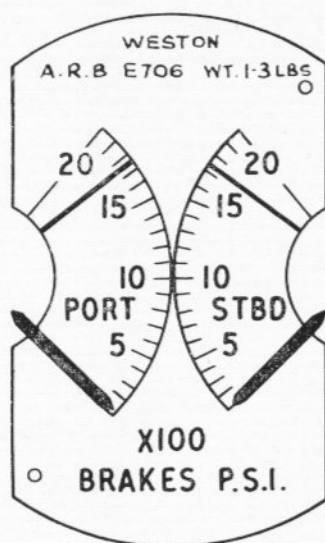

Fig. 1. Indicator, Type S127.5.159
1. The dual pressure indicator, Type S127.5.159 (fig. 1) is calibrated in lb/in² from 0 to 2000 on each of the two scales. The deflection of each pointer is controlled by variation of resistance of an externally connected pressure transmitter of the S122 series. The two indicator movements are each designed as a ratiometer.